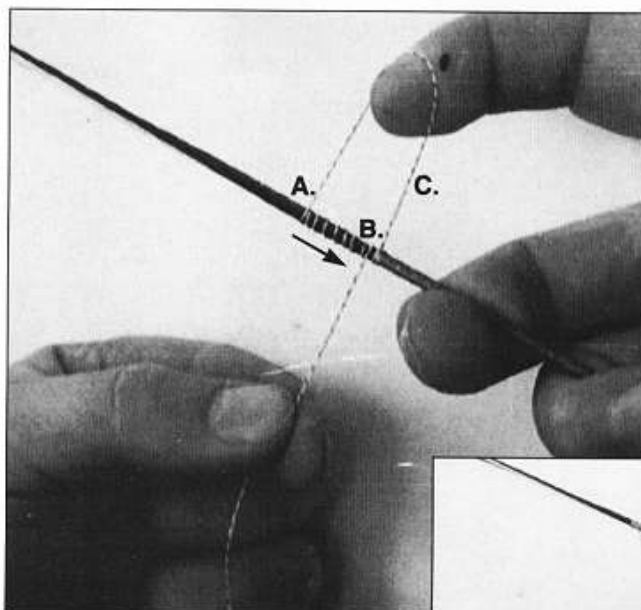

Figure 10.
Look closely at figure 10. With approximately 15 inches of serving thread, make a large half-loop (A) about 3/4" from where the wrapped serving ends